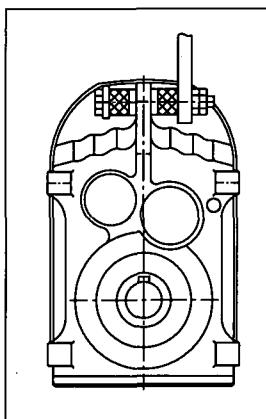

Fig. 5
- shaft mounted helical gear units as shown in Fig. 5